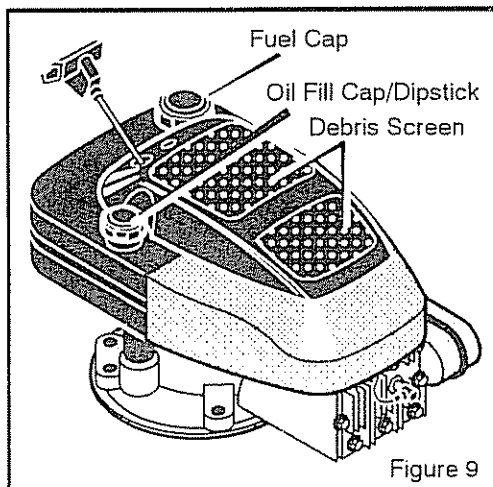

Figure 9
- 2 Remove the oil fill cap/dipstick shown in Figure 9
1 Before each use, remove debris from the **debris screen** shown in Figure 9. Debris can cause the engine to overheat. Wipe the **debris screen** with a cloth or paper towel.